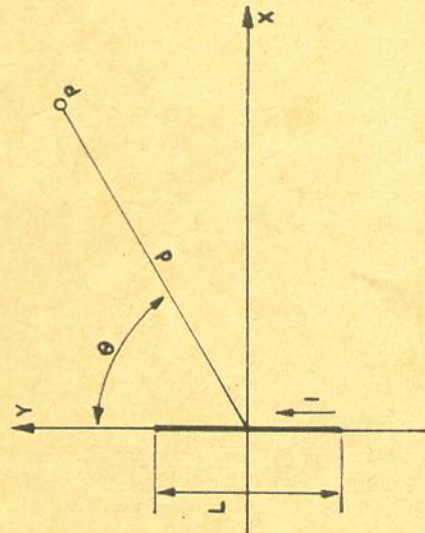

Figura 1
$$E = \frac{60 I \cos\left(\frac{\pi L}{\lambda} \cos \theta\right)}{d \operatorname{sen} \theta} \quad (1) \quad (\text{ver figura 1})$$
$$E = \frac{60 I \operatorname{sen}\left(\frac{\pi L}{\lambda} \cos \theta\right)}{d \operatorname{sen} \theta} \quad (2) \quad (\text{ver figura 1})$$